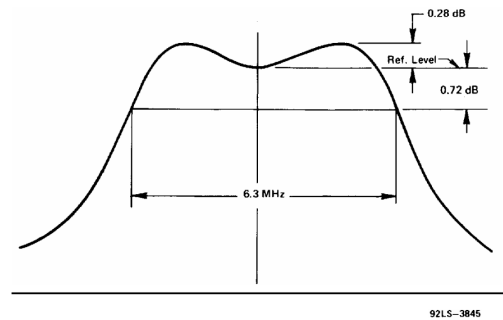

Figure 2 - Bandwidth Characteristics
- r The bandwidth of 6.3 MHz is calculated at the -0.72 dB power points of a doubled-tuned output circuit using two times the tube output capacity and a damping factor of the square root of 1.5 as shown in **Figure 2**.